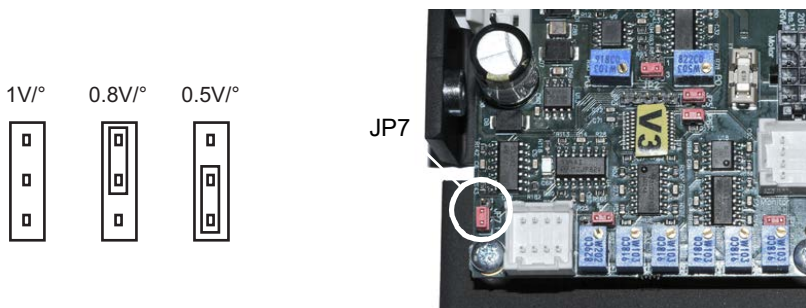

Fig. 3.19 Setting the Volts/Degree Scaling Factor
- 1) Identify JP7 as shown in Fig. 3.19.